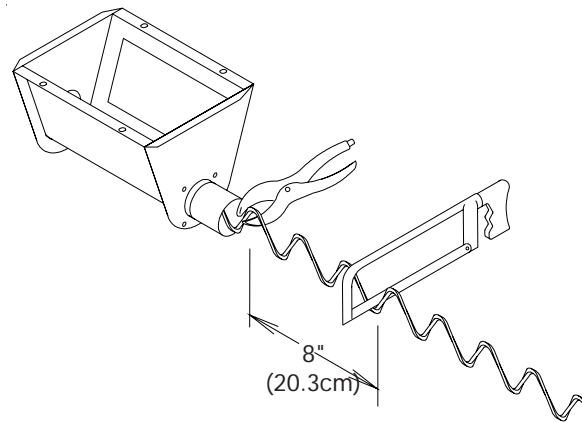

Figure 21: Cutting the Auger.
8. For ease of trimming the auger, pull the auger out an additional 8" (20cm) past the mark and clamp it at the unloader. This clamping releases tension at the mark and thus eases cutting (see Figure 21).